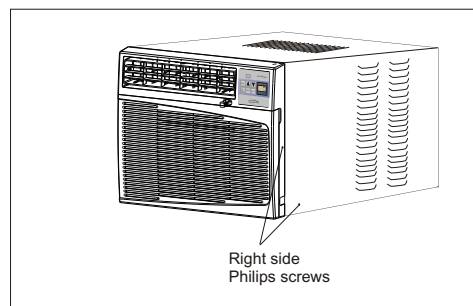

Fig. 1
A. Remove total of (4) Philips screws securing the chassis to the cabinet. There are (2) screws on each side. The set of screws closest to the front of the unit secure the front panel to the cabinet. The set of screws closest to the rear of the unit secure the cabinet to the chassis. See (Fig. 1).
B. Secure the front grille to the cabinet using the Philips screws removed earlier (Fig. 1).